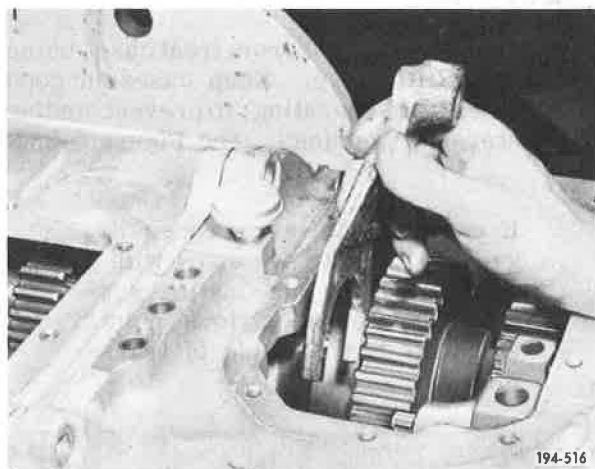

Figure 5-245. Removing Shift Fork
23. Remove second/third speed shift fork. See Figure 5-245.